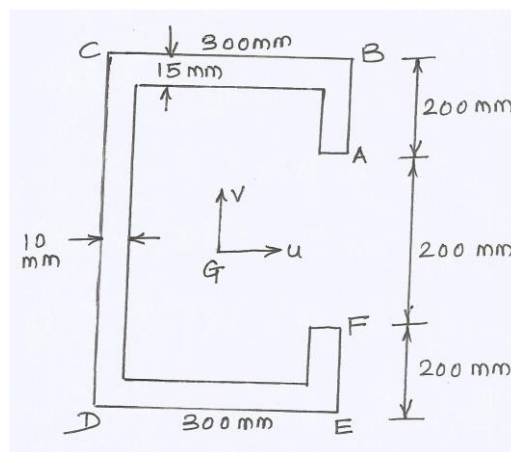

Figure-4
- (c) Determine the position of the shear centre for the thin-walled open section shown in Figure-4. Moment of Inertia of the section  $I_u = 1070 \times 10^6 \text{ mm}^4$ . 07